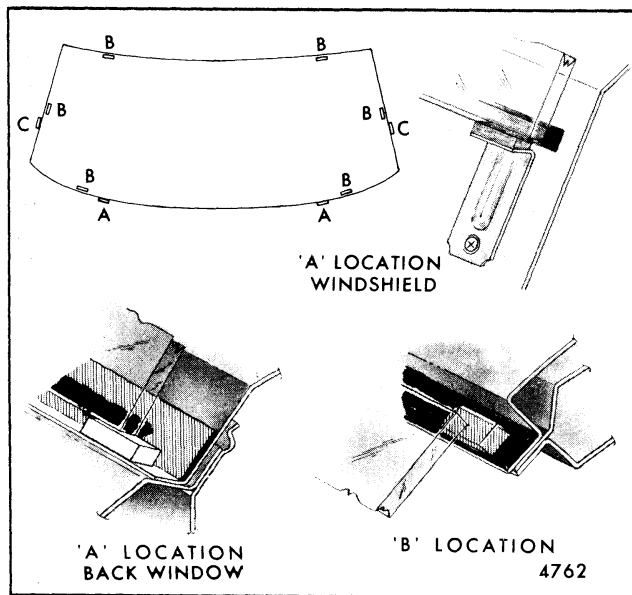

Fig. 1-15-Glass Spacer Installation
2. Locate lower support spacers as indicated in Fig. 1-15 ("A" location) and position glass in the window opening. If new glass is being installed, check relationship of glass to adhesive material on pinchweld flange. Gaps in excess of  $1/8$ " must be corrected by shimming or by applying more adhesive material than specified in Step 7.
- A. Part No. 4459429 or equivalent (20 x .63 x 1.0) stand off spacers for maintaining glass  $3/16"$  from body opening - see location "B", Figure 1-15.
- B. Part No. 7694478 or equivalent (.34 x .44 x .75) lower and side support spacers - see locations "A" and "C", Figure 1-15.
- C. Part No. 9848544 or equivalent (.52 x .44 x .75) lower and side support spacers - see locations "A" and "C", Figure 1-15.
- D. Part No. 9613680 or equivalent (.36 x .44 x 1.0) lower and side support spacers - see locations "A" and "C", Figure 1-15.
4. Using black weatherstrip adhesive or adhesive material, cement flat rubber spacers No. 4459429 or equivalent to window opening pinchweld flanges. As shown in Figure 1-15, location "B", spacers should be positioned to provide equal support around entire perimeter of glass.
5. Figure 1-15, location "A", illustrates rectangular spacers positioned in typical back window installation. Re-install metal supports at lower edge of windshield glass (in lieu of two lower "A" spacers indicated in back window installation).